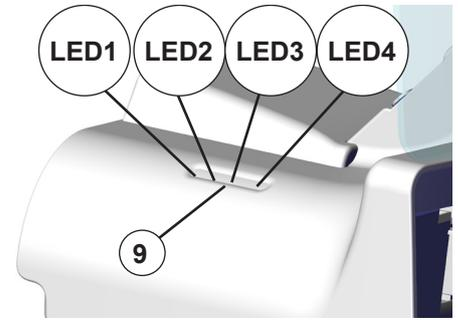

Fig. 2
- ⇒ Slide the inspection window (10) straight from above into the grooves on the side of the suction opening.
**i** *The inspection window can be folded down to store the unit in a drawer, for example. To do this, pull the inspection window up a bit and fold it back, see Fig. 2 (on inside cover).*